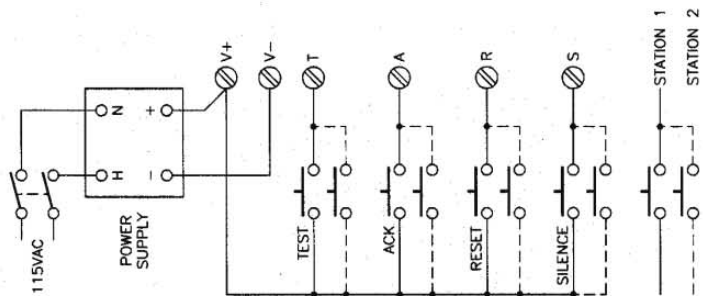

FIG. 1
- *FOR MULTIPLE PUSHBUTTON STATIONS, WIRE EACH ADDITIONAL STATION IN PARALLEL AS SHOWN IN FIG. 1.